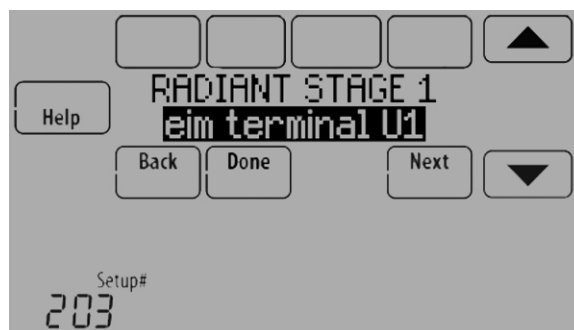

Fig. 171.
3. Select the universal terminals wired to the Geothermal Radiant Heat. See Fig. 171.